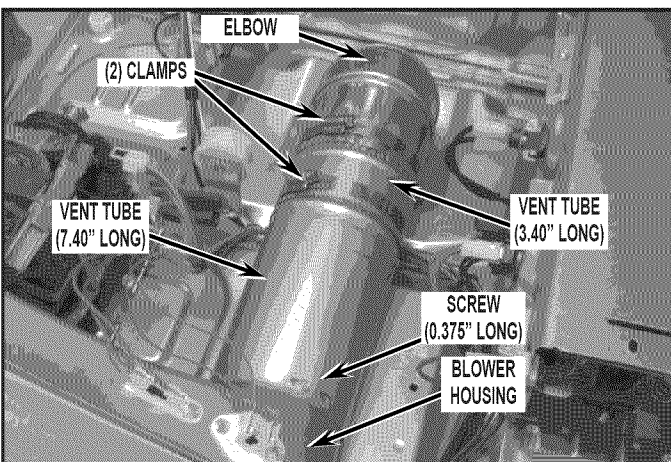

FIGURE 26
6. Attach the 187 mm (7.40") long vent to the blower housing using the 3/8" long screw removed in step 20 of "Procedure for Dryer Disassembly" section. See *Figure 26*.
8. Attach vent tube sub-assembly to the 187 mm (7.40") long vent tube within dryer as shown in *Figure 26*.
9. Assure the positioning of the bottom exhaust vent assembly then securely tighten the clamps. See *Figure 26*.